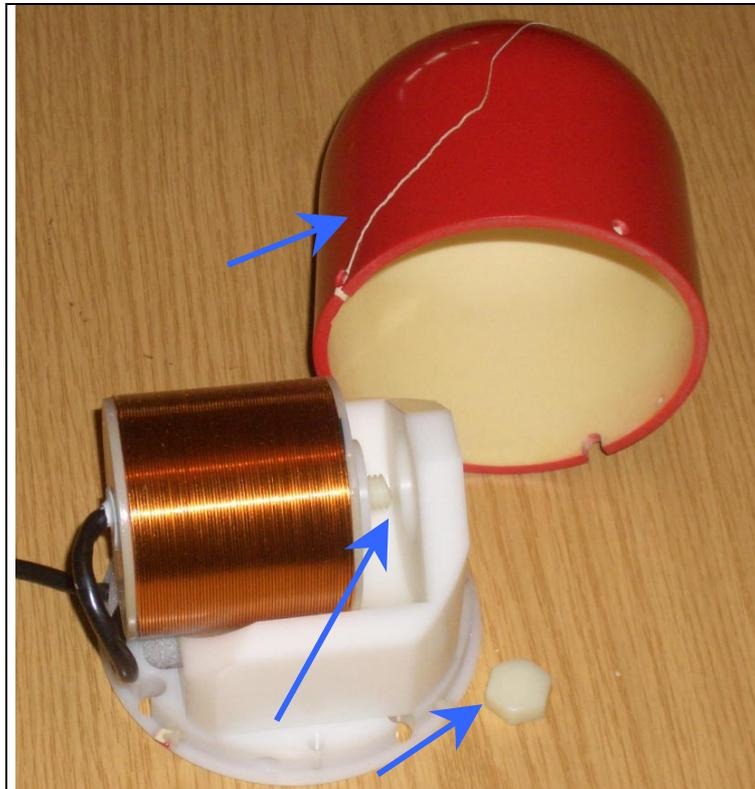

Figure 6: damage by transport
- take one coil and put it on the right place off the Ema cube (figure 6)